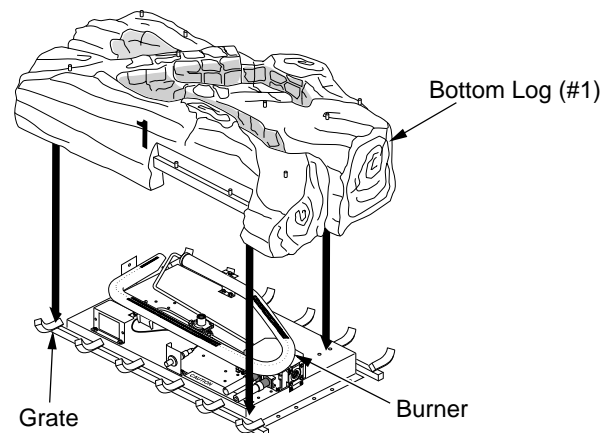
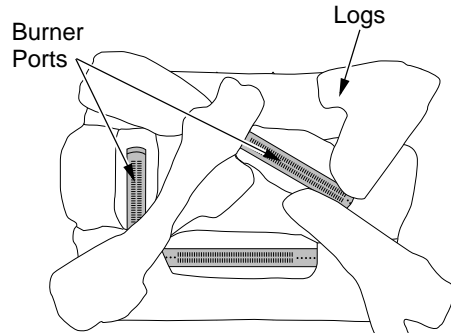

Figure 23 - Installing Bottom Log (#1)
Figure 24 - Installing Log set (Top View)
1. Place base log (#1) on grate to fit as illustrated in Figure 23. Make sure open areas of log set line up with burner ports (see Figure 24, page 14). Log will fit securely on chassis.